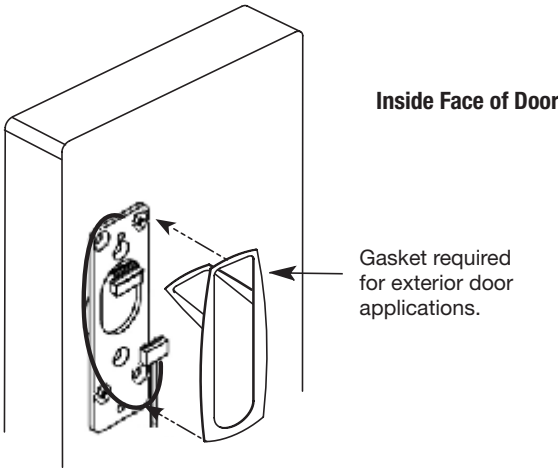

Fig. 7
- Remove backing and place gasket on door (Fig. 7).